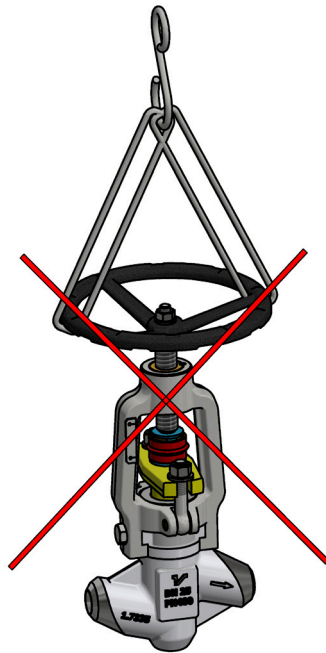

Figure B.15
- Do not lift VHP & VHP-NTRS via the handwheel (Figure B.15).